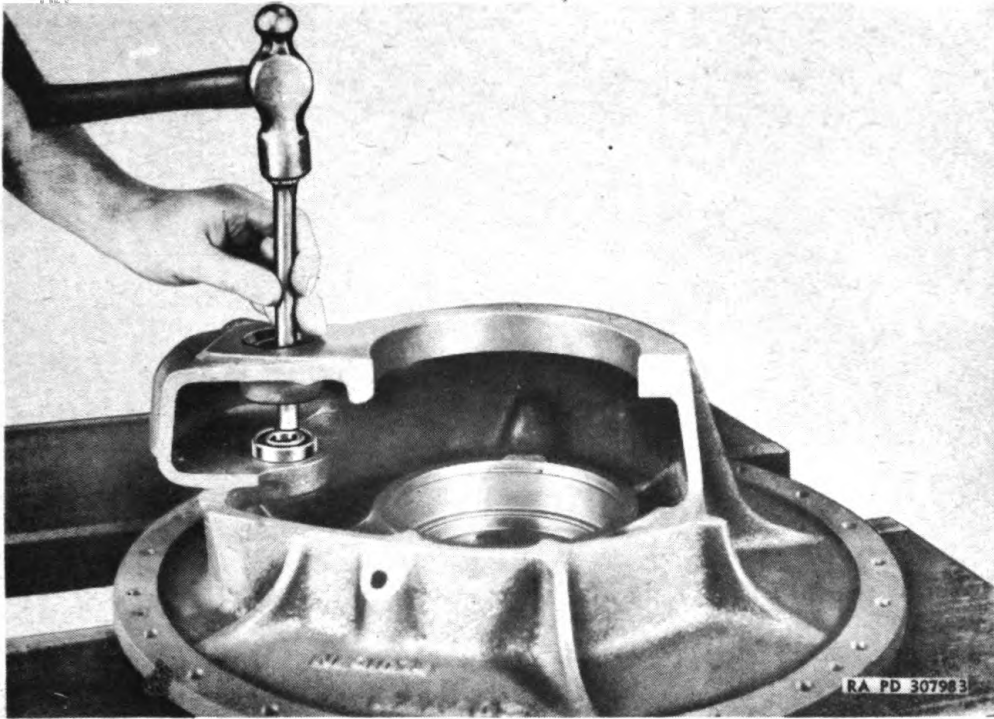
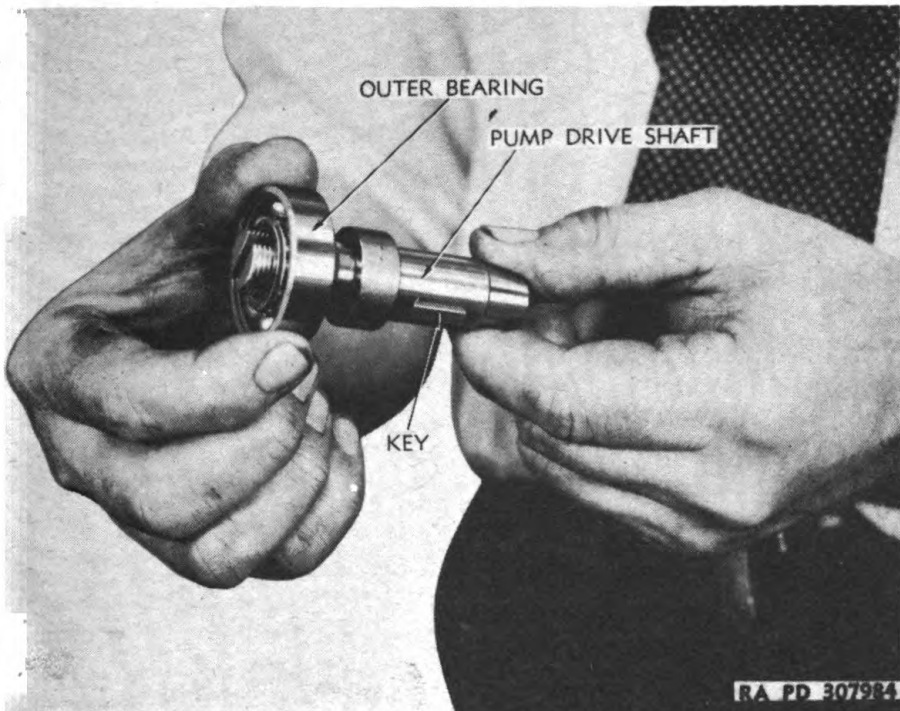

Figure 175 — Installing Inner Pump Drive Shaft Bearing
Figure 176 — Installing Outer Bearing on Pump Drive Shaft
c. Assemble and Install Pump Drive Assembly. Install pump drive shaft outer bearing on threaded end of shaft and tap key for gear into slot in shaft as shown in figure 176. Drive or press inner bearing into lower bore in turbine housing cover plate (fig. 175). Insert pump drive gear through large opening in cover plate with projecting hub down, as shown in figure 177, aline gear with key in shaft, and insert end of pump shaft through upper bore in cover plate and through gear. Then screw puller screw of special tool (41-P-2951-49) onto end of shaft and drive shaft and bearing into place as shown in figure 178. Install snap ring in bore above outer bearing.